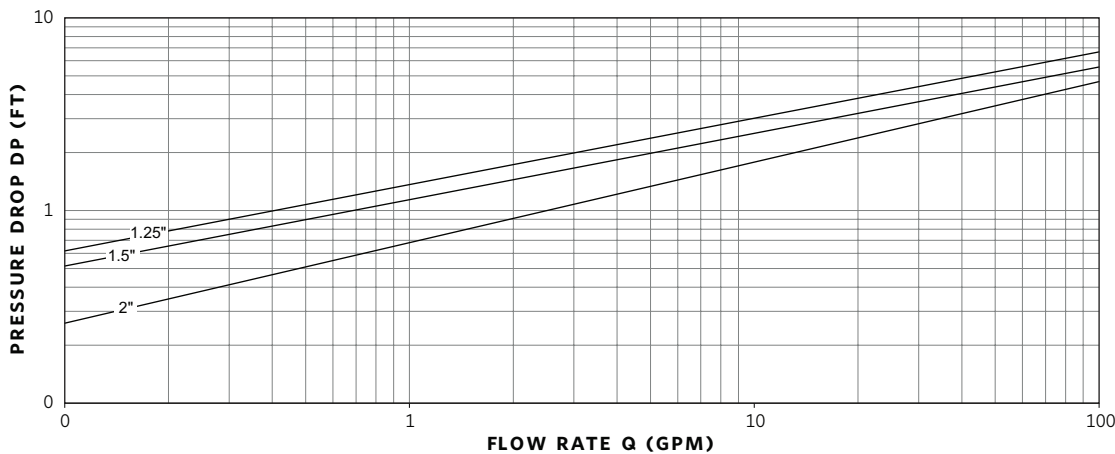

FIG. 14
2.2 Refer to Flo-trex performance curves with valve in full open position (**FIG. 14 & 15**)
From the Flo-trex performance curve (**FIG. 14**), a 2" valve with 3.5 ft pressure drop (1.06m) represents a flow of 55.05Usgpm (3.47 L/s).